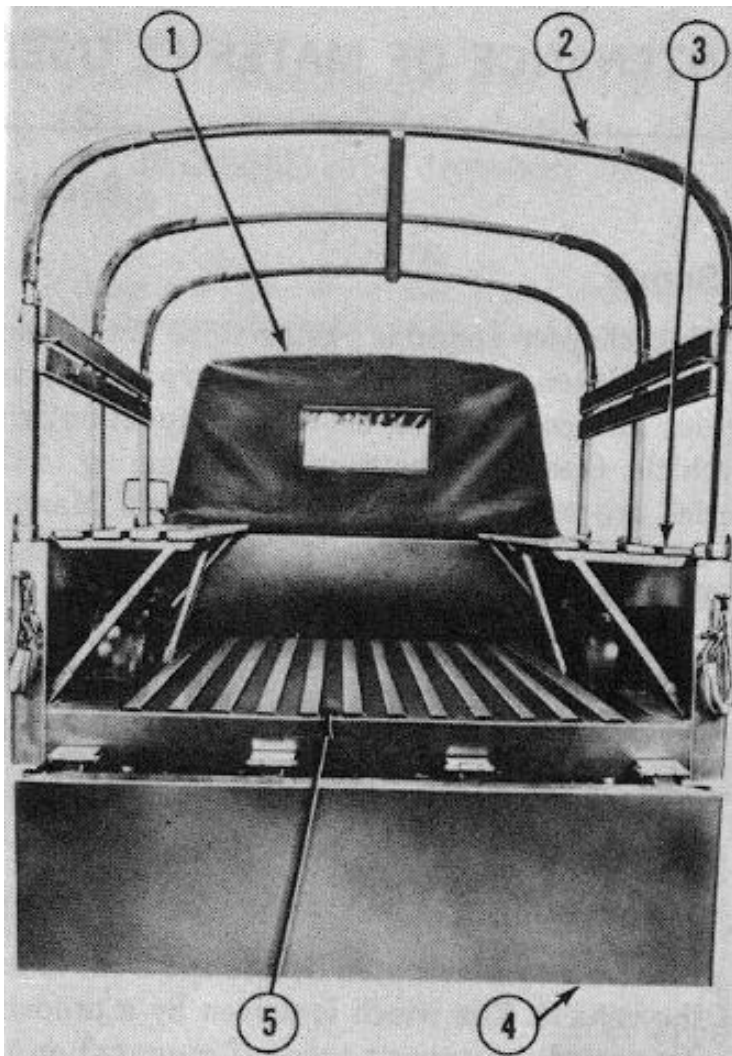

Figure 2-107. Cargo body area.
a. Cargo Cover, End Curtains and Bows, (Fig 2-107)
- (1) Remove roof bows from storage and install ridge pole and bows in channels in seat back supports and cargo box.
- (2) Secure the three ridge pole sections to roof bows.
- (3) Install bolt, lock washer and nut through cargo box side channels and side bows.
- (4) Position cargo cover and front and rear end curtains over roof bows.
- (5) Roll sides down and tie ropes to cargo box front and side panel hooks.